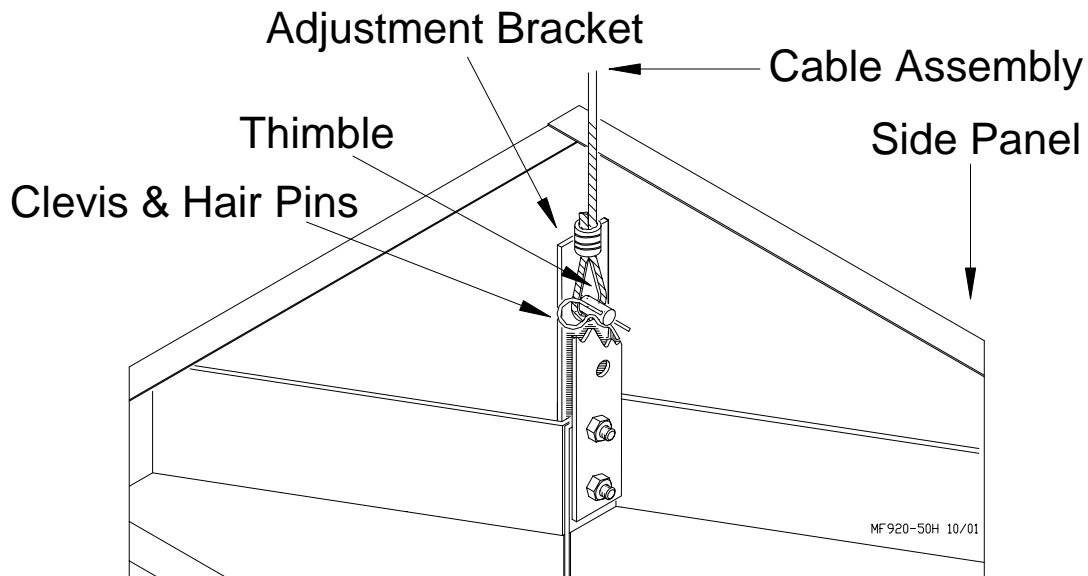

Figure 39. (Top View of Hopper)
1. Assemble the hopper to the boot using the bottom rails of the hopper, as shown in **Figure 39**. Hardware (1/4-20) is supplied to hold the boot in place on the hopper rails.
2. A Cable assembly (including 20ft.[6m] of cable, a sleeve clamp, and a 5/32" thimble) is supplied to suspend the hopper. **Figure 39** shows the suspension components assembled. The pin should be located through the top hole of the adjustment brackets.